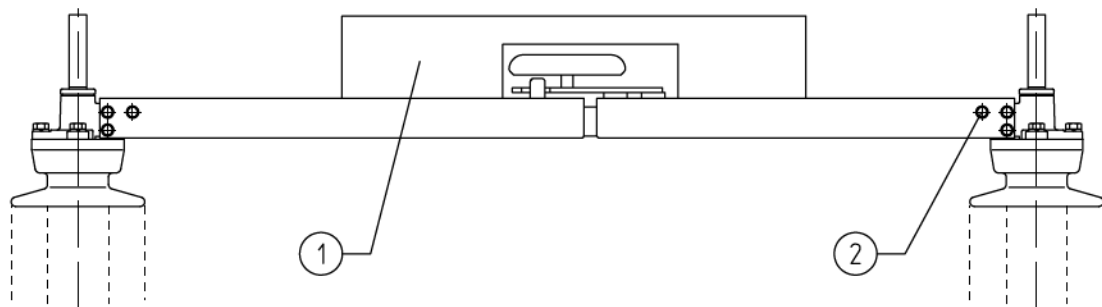

Figure 6
5. Check using a ruler if the blades are in line as shown in Figure 6. For adjustment release the M10 fixing bolts and align the blades. Tighten the M10 bolts. Remark: main blades for higher currents can have M12 bolts.